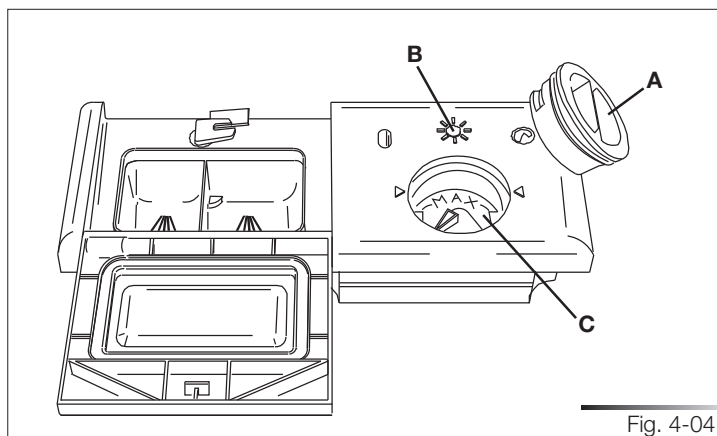

Fig. 4-04
- Rotate the container cover (ref. A fig. 4-04) anticlockwise by $\frac{1}{4}$ of a turn and remove it.
- Add the rinse aid until the container is full (approximately 140 ml). The optical level indicator (ref. B fig. 4-04), on the side of the cap should be completely obscured. Refill the rinse aid when the optical level indicator becomes clear again, or when the rinse aid warning light illuminates (see “Description of controls” manual).
- Replace the cover (ref. A fig. 4-04) by turning it in a clockwise direction until it is fully closed.
The rinse-aid dispenser can be set to one of 6 different levels. The dishwasher is factory set for medium water hardness (selector set to “3”). To change the setting, turn the dispenser selector (ref. c fig. 4-04) to the desired position: the amount of rinse-aid dispensed is proportional to the position of this selector. Make sure that the minimum amount of rinse-aid (selector turned to “1”) is approximately 1 ml and the maximum amount (selector turned to “6”) is approximately 6 ml.
- To adjust the rinse aid setting, rotate the dispenser cover (ref. A fig. 4-04) through a quarter turn in an anticlockwise direction and remove it.